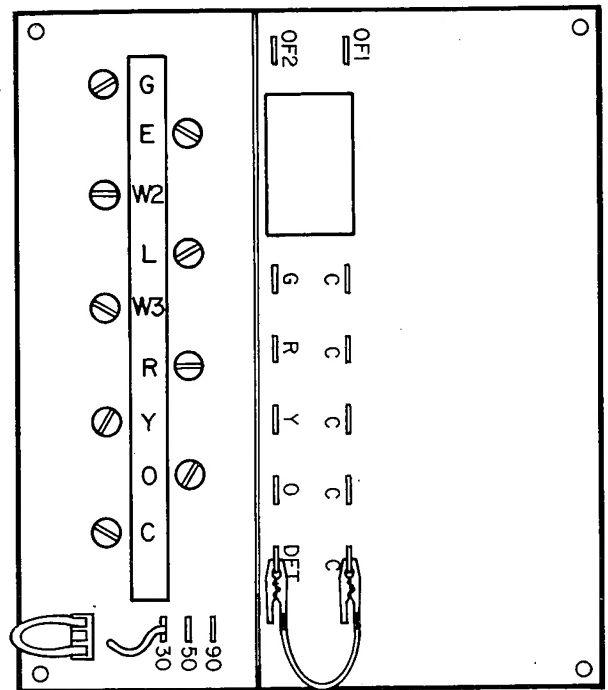

Fig. 10 — Inserting Jumper Wire into Protective Cover
8. Remove protective cover from TP1 and TP2 speed-up terminals. Insert jumper wire into protective cover, reinsert protective cover on speed-up terminals. This reduces by 1/4 timing sequence of original time (see Fig. 10). Since Fig. 10 shows timing cycle set at 30 minutes, unit initiates defrost within approximately 30 seconds; if setting is at 50 minutes, within